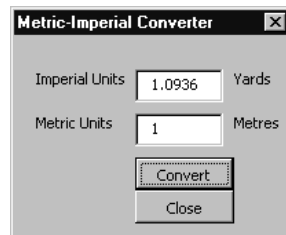

Figure 1.9 The finished version of the Metric-Imperial Converter application’s GUI with the captions set
4. You may want to line up the controls on your UserForm to improve its appearance, as in Figure 1.9.